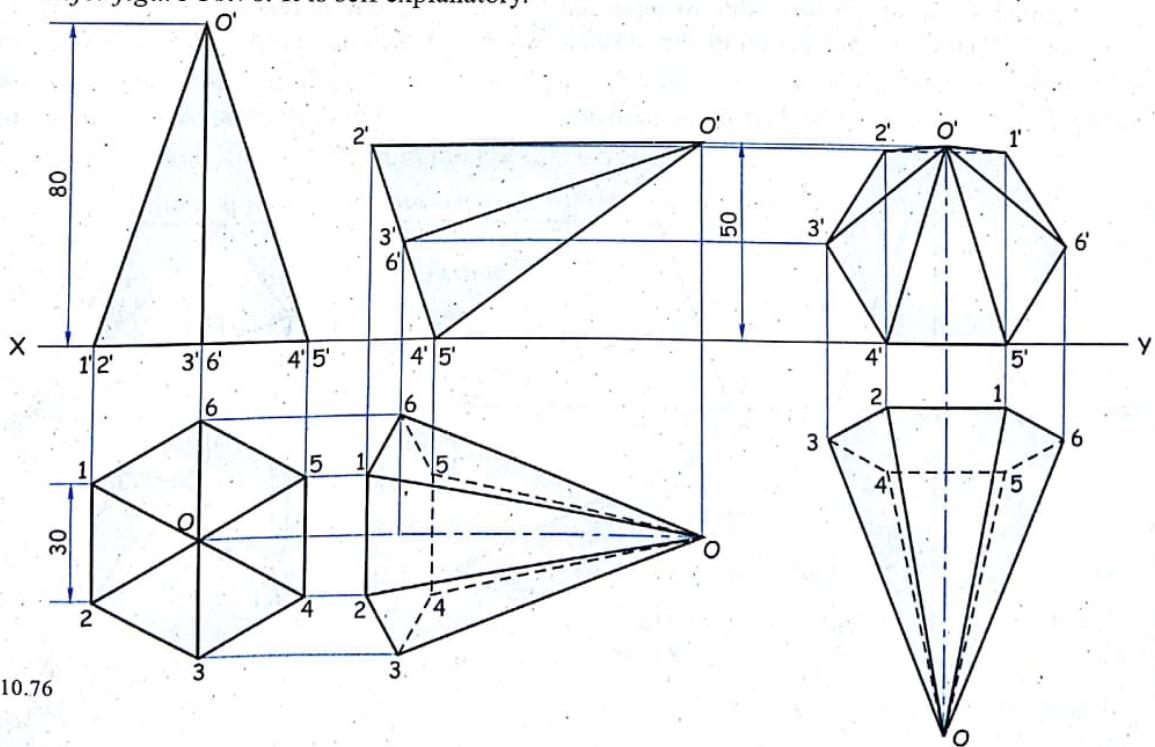

FIG. 10.76
**Solution :** Refer figure 10.76. It is self explanatory.